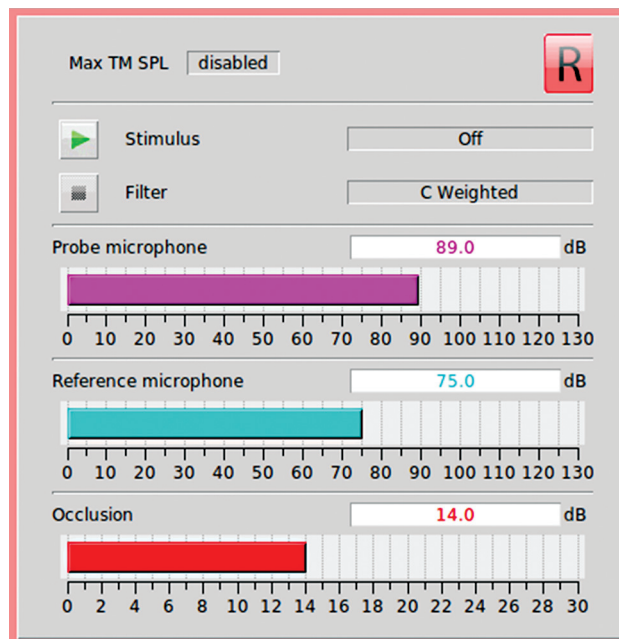

Figure 1 Occlusion test results with an occluded ear.
4. Click **the green arrow** and follow instructions on screen. (You will ask the patient to say "eeee" in a conversational voice.) Click the Stop button to capture the recording (Figure 1).
7. In this second example, when the patient vocalized "eeee," the signal was 73 dB at the probe microphone in the ear canal and 77 dB at the reference microphone. When these two measurements are subtracted, they result in the occlusion which was calculated to be -4 dB. A negative number in a green color indicates that there is no occlusion (i.e., the fitting is open). If a change is made (e.g., using a larger vent, changing to a more open dome), this can be remeasured, and you should see a difference in the results as we do between Figures 1 and 2.